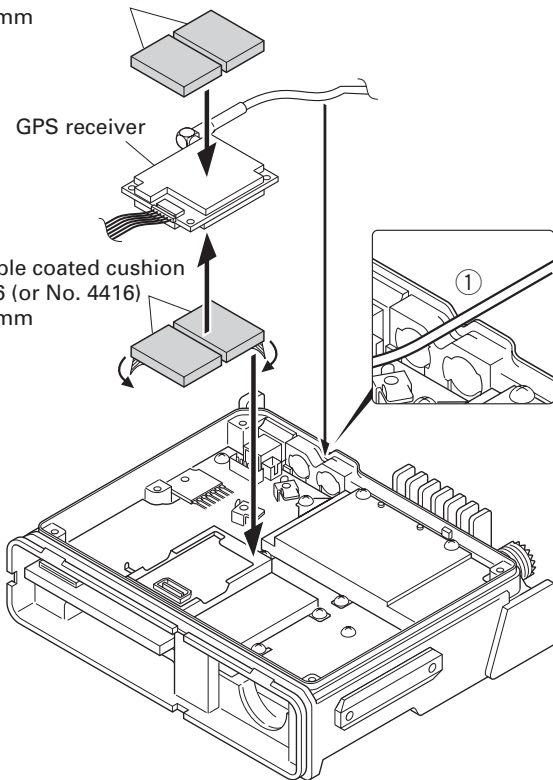

Fig. 8-2
4. Attach the GPS receiver to the shield case with two cushions as shown in Figure 8-2.
6. Place the GPS antenna cable in the hollow at the rear of the chassis. (Fig. 8-2 ①)